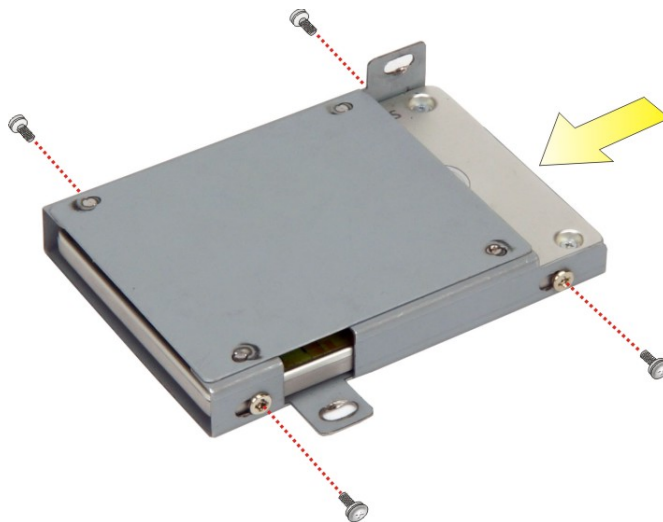

Figure 3-3: HDD Retention Screws
Step 4: Slide the HDD into the HDD bracket, aligning the four retention screw holes in the both sides of the HDD bracket with the retention screw holes on the sides of the HDD (**Figure 3-3**).
Step 5: Insert four retention screws (M3*5) into the bracket (**Figure 3-3**).